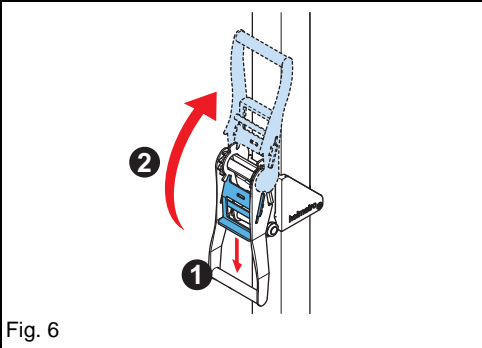

Fig. 6
- Release the tension belt. Refer to Fig. 6.